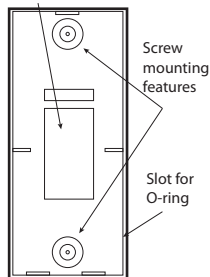

Figure 2
- 1 Mount the DBELL1 on the door frame using the orientation shown in Figure 2. Use the supplied phillips head screws to attach it to the surface.
- 3 Place the supplied O-ring around the perimeter of the base as shown in Figure 2.